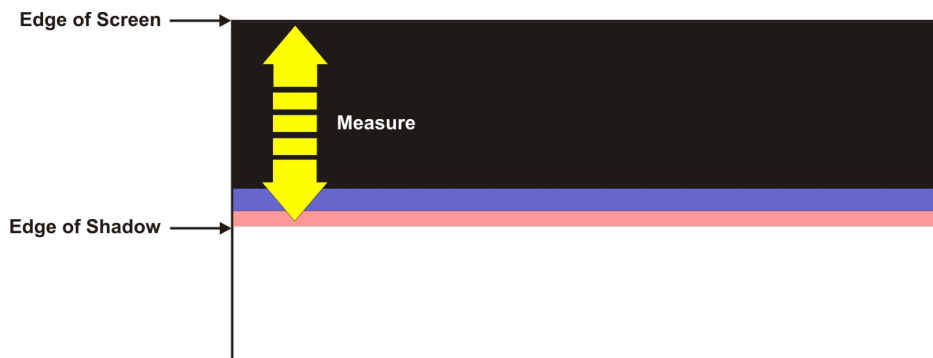

Figure B-2 Adjusting Overfill
7. Use a ruler to measure from the top edge of the DMD output to the point where there is no discoloration or fading of the white image (**Figure B-2**). This will give you the centimeters that the output beam moved.